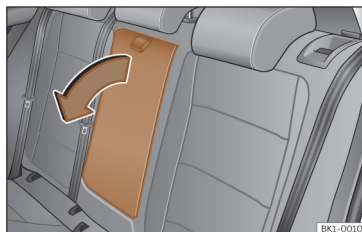

Fig. 91 Folding rear centre armrest (schematic view).
- To lower the armrest, pull the cord in the direction of the arrow >>> **Fig. 91**.